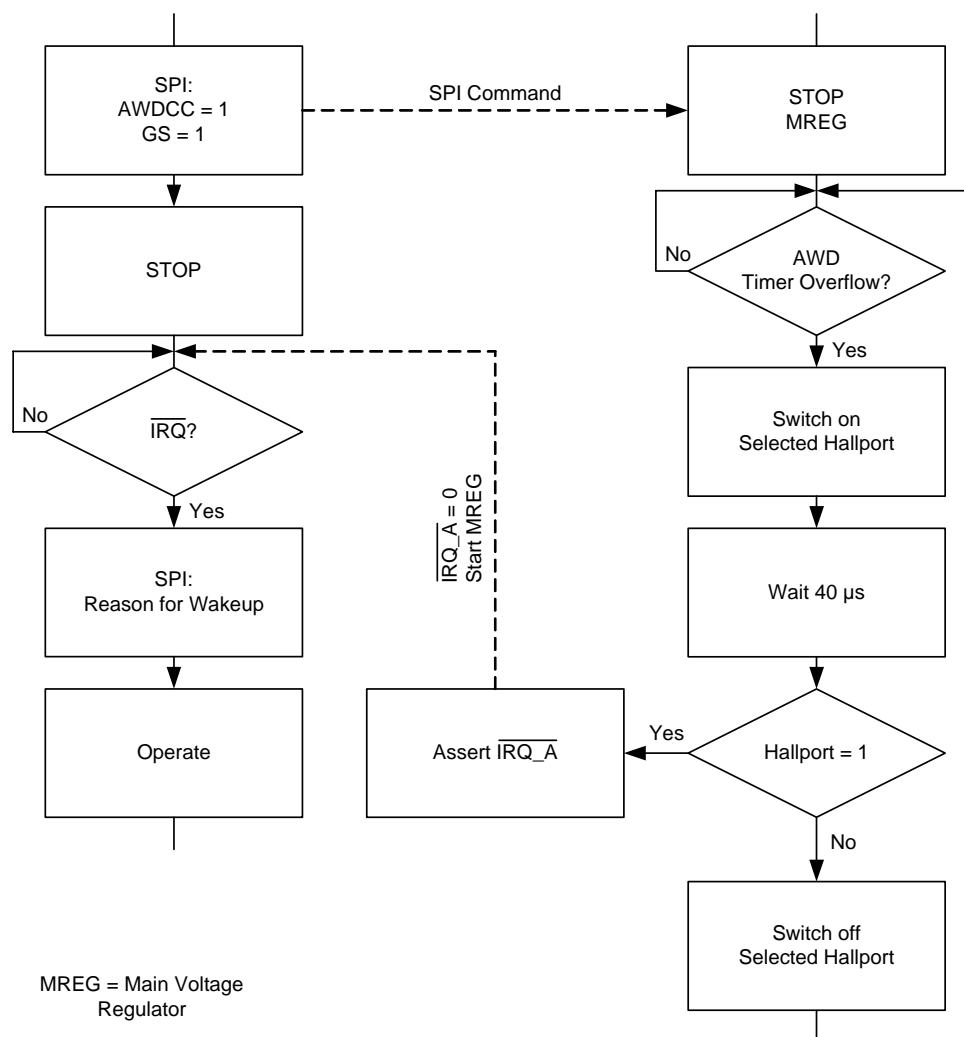

Figure 16. Hall-Effect Sensor Input Pin Cyclic Check Wake-Up Feature
- The cyclic wake-up of the AWD is enabled (AWDCC = 1); see Figure 16